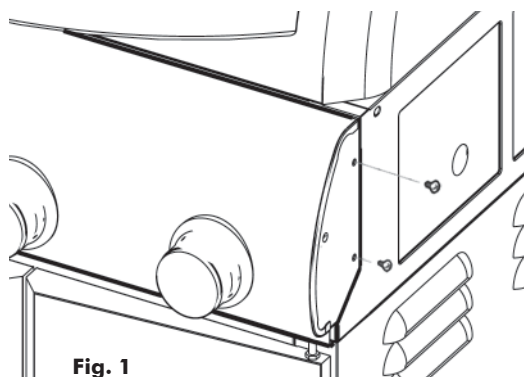
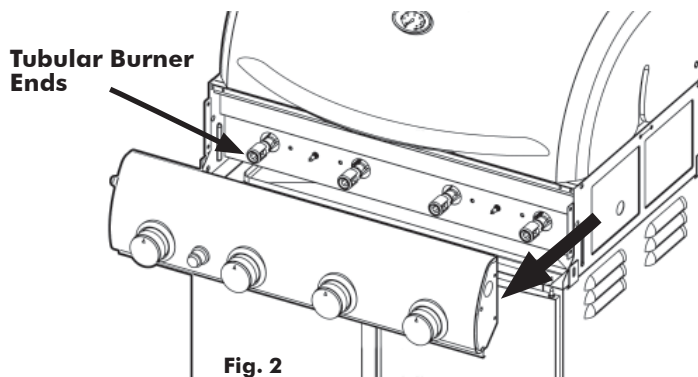

Fig. 1
Fig. 2
4. Figures 1, 2, 4 and 4a show the grill at assembly step 9, prior to attaching the Side Tables and illustrate the initial steps in the “FIRST TIME USE LEAK TEST”.
Detach the Control Panel from the Grill Body/Firebox by removing the two 5/32” Bolts from each end. (Fig. 1) Gently pull the Control Panel away from the Body until Valves disengage from the Tubular burner ends. (Fig. 2) Support the Control Panel to keep tension off of the igniter wire leads or detach the wire leads from the Starter Button module.
10. Re-attach the wire leads to the Igniter button. Replace Control Panel around flanges at Bowl ends and align bolt holes on each side. Replace and retighten all bolts. (Fig. 1)